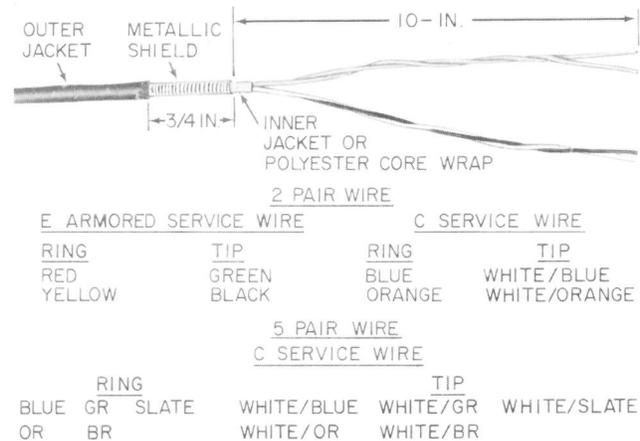

Fig. 9—Service Wire Prepared for 16-Type Closure
5.01 Prepare service wire as shown in Fig. 9.